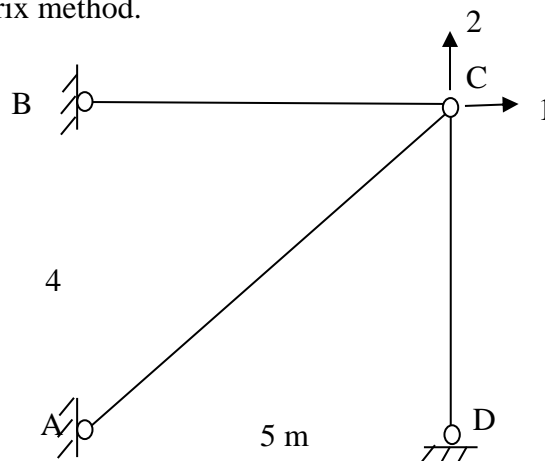

Fig 4
b) Analyse the truss shown in Fig. 4 (with active global coordinates, as shown) and find the joint displacements, support reactions and bar forces. The truss is subjected to direct loads  $F_1 = 50 \text{ kN}$ ;  $F_2 = 30 \text{ kN}$ , and a lack of fit due to bar AC being too long by 5 mm. Assume all bars to have same axial rigidity  $AE = 6000 \text{ kN}$ . Use stiffness matrix method. (10)